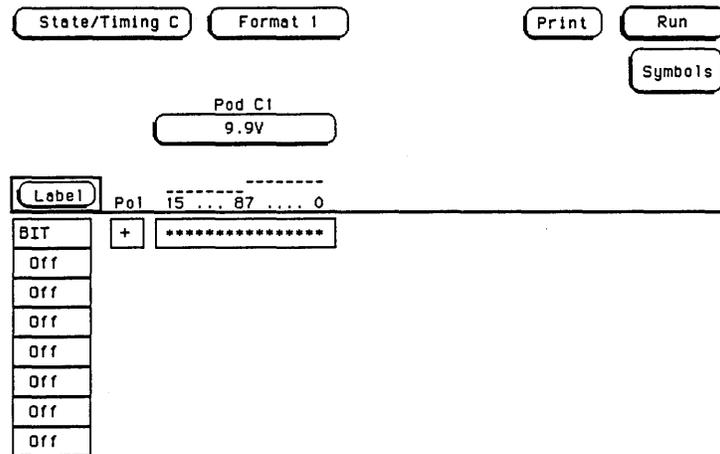

Figure 3-44. Format Screen
9. Return to the **Format** screen and change **User defined Pod Threshold** to **+9.9 V** as in figure 3-44. Refer to steps a and b if unfamiliar with menus.